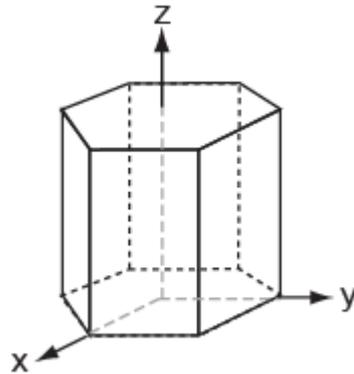

Figure C19. Hexagonal unit cell
**E11.** The symmetry of the hexagonal lattice about a lattice point is  $6mm$ . Identify the 6-fold axis and the three mirror planes on the unit cell of the hexagonal lattice shown in Figure C19. (The mirror planes must not rotate into superposition by the operation of the rotation axis - if they do, the description contains redundant information.)